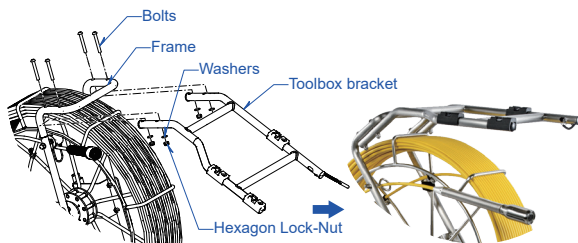

Figure 18.
4. If you choosed the toolbox unit, please install the toolbox bracket (Figure 18).